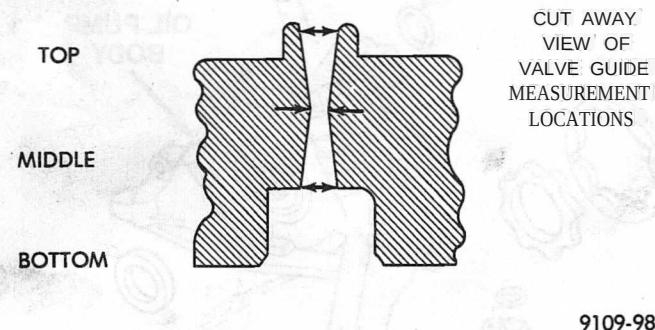

Fig. 97 Checking Wear on Valve Guide—Typical
(1) Remove carbon and varnish deposits from inside of valve guides with a reliable guide cleaner.
(2) Using a small hole gauge and a micrometer, measure valve guides in 3 places top, middle and bottom (Fig. 97). Refer to Valve Guide Specification Chart. Replace guides if they are not within specification.